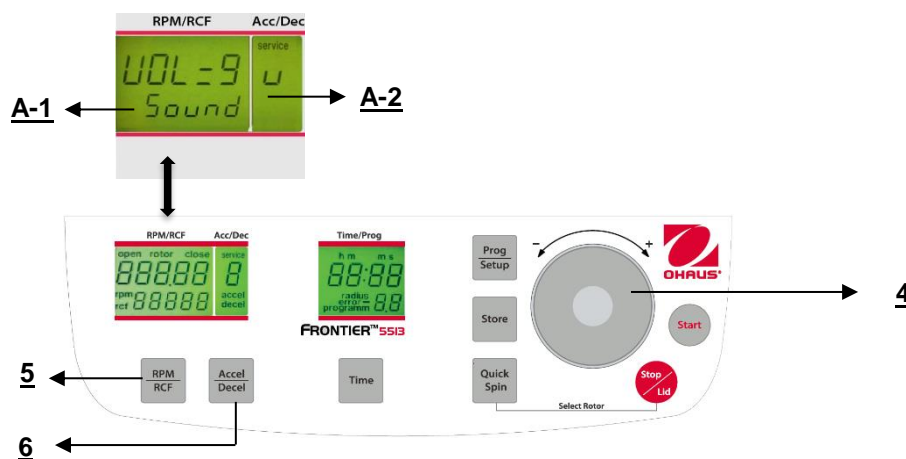

Figure. 31
Proceed as described under point 4.1.2 to enter this program mode and then press the key **"Accel/Decel"** (6). In the display **"Acc/Dec"** (A-2) the word **"Service"** flashes. Now select the letter **"U"** with the adjusting dial (4). As a result, in the display **"RPM/RCF"** (A-1) the words **"Vol=0- 9/Sound"** appear. After pressing the key **"RPM/RCF"** (5), you can adjust the desired volume between 0 (low) and 9 (loud) with the adjusting dial (4) (See figure 31).